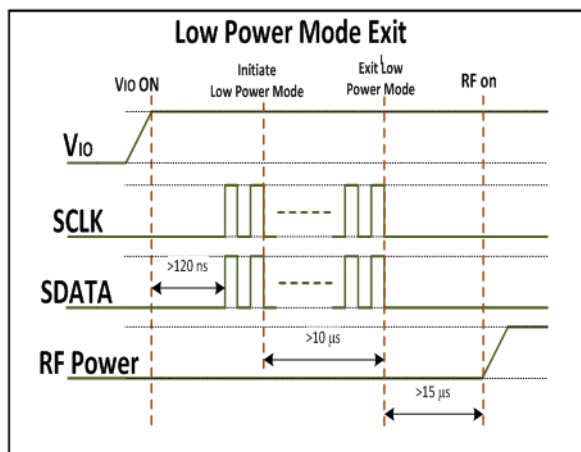

Figure 4 Low Power Mode Exit Timing
6. If “Low Power Mode” is utilized, there must be a delay of 10  $\mu$ s before exiting “Low Power Mode”. (see figure 4)